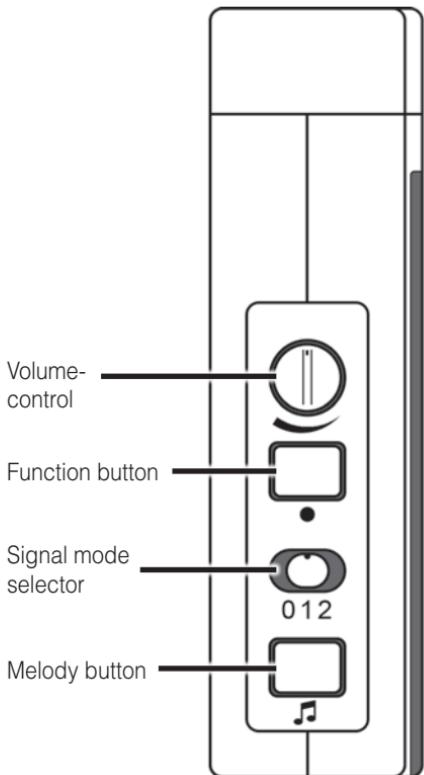

Figure 2: Controls, left side
Using the signal mode slide switch (in fig. 2 “**0 1 2**”) you can select the signal mode. Kindly keep in mind that the event icons are always displayed by coloured LEDs.
- a) Keep the function button »●« (fig. 2) pressed for some time. The event icons start to light up in sequence. Let go of the key as soon as you see the desired icon.